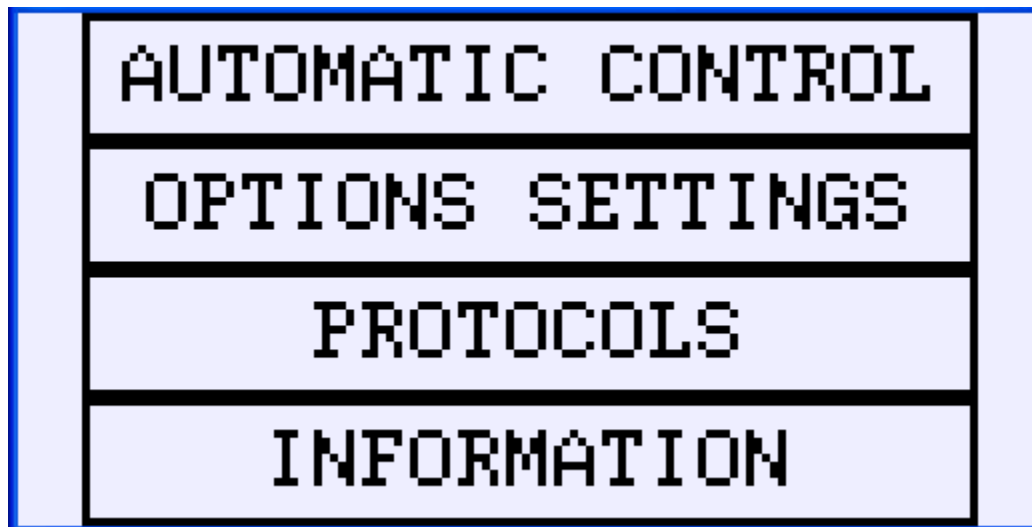
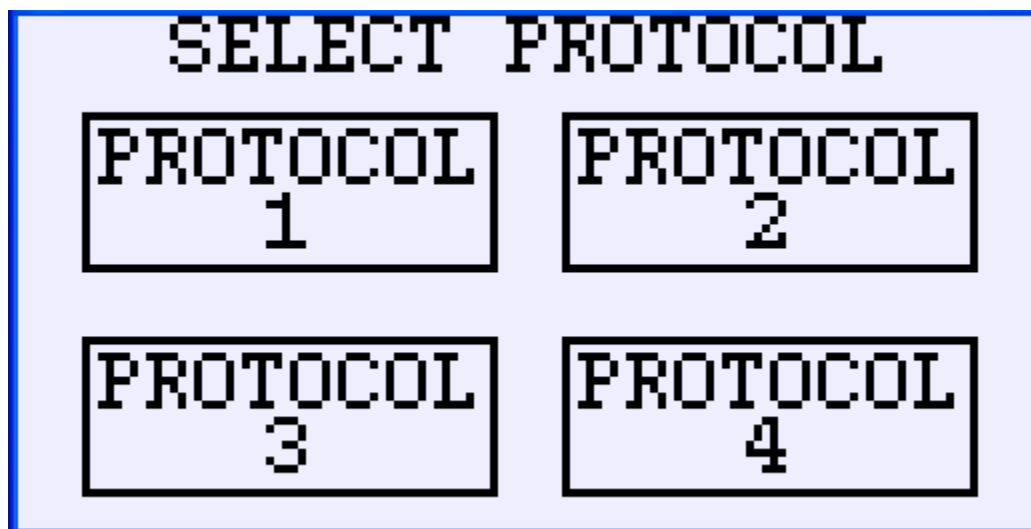

Figure 3
Figure 13
The **MAIN** screen (Figure 3) is accessed by pressing the **Main** function button. It is used to access the main functional areas used to operate this system.
The **OPTIONS SETTING** screen (Figure 12) is accessed by pressing the **Main** function button to display the **MAIN** screen (Figure 3) and then touching the **OPTIONS SETTING** button. This is the first options setting screen where automatic run programming, factory settings and manual control can be accessed.
The **SELECT PROTOCOL** screen (Figure 13) is accessed by pressing the **Main** function button to display the **MAIN** screen (Figure 3) and then touching the **PROTOCOLS** button brings up to the **SELECT PROTOCOL** screen where 4 different 10 step protocols can be programmed and run.
1. Select the desired protocol number from the **SELECT PROTOCOL** (Figure 13) screen by touching the protocol number button. The **SELECT PROTOCOL** screen is accessed by pressing the **Main** function button to display the **MAIN** screen (Figure 3) and then touching the **PROTOCOLS** button.